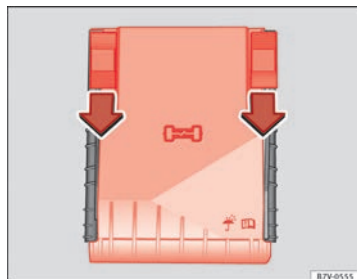

Fig. 202 In the engine compartment: fuse box cover.
- Move the attachment tabs forwards, in the direction indicated by the arrow to release the fuse box cover → fig. 202.